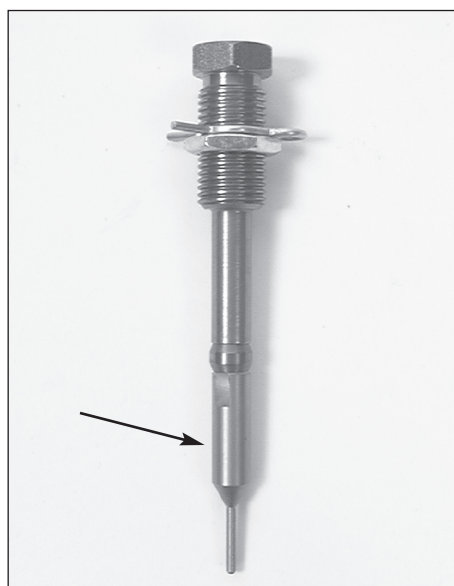

FIG 84
2. Unscrew the decapping pin (see arrow **FIG 84**), and replace it with a new one.